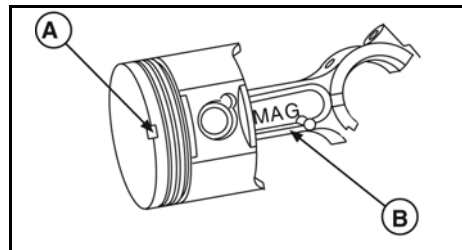

Figure 7
**NOTE:** The notch or arrow (A, Figure 7) on the piston and "MAG" on the rod (B) must face the same direction. When installed in engine, the notch will face the flywheel.